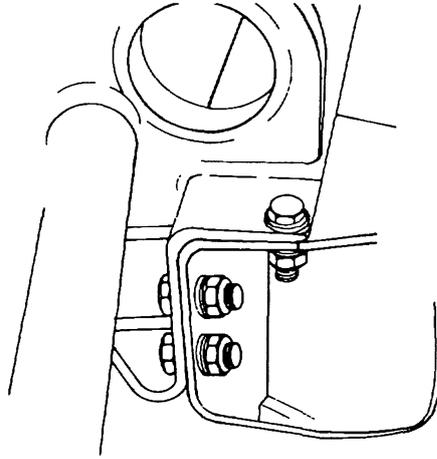

Figure 204 Bumper Brushguard Removal
- a. Loosen the twelve nuts, washers and bolts securing the bumper to the chassis frame (Figure 204).